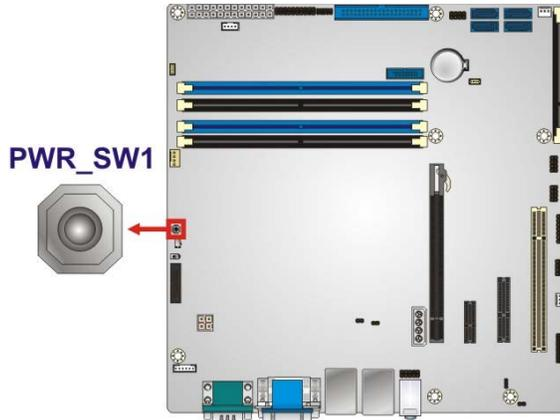

Figure 3-18: Power Button Location
- CN Location:** See **Figure 3-18**